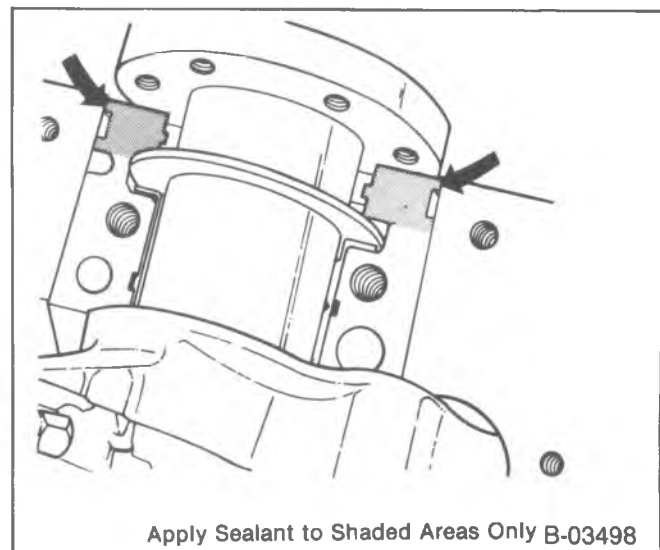

Figure 22—Applying Sealer to the Block
- Apply a brush-on type oil sealing compound to the mating surface of the block and cap (figure 22). Do not allow any sealant on either crankshaft or rear oil seal.